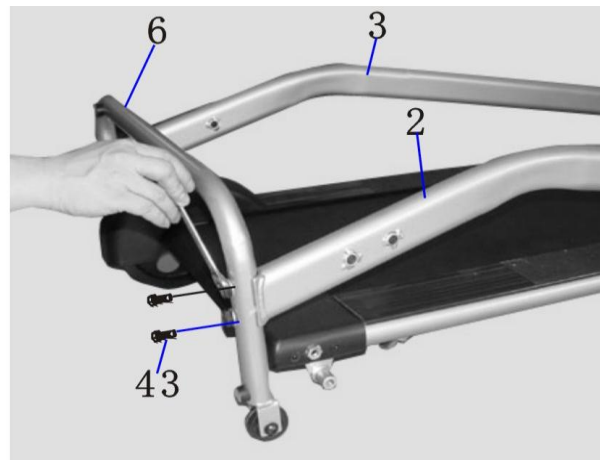

Figure 2
Attach the Base support (6) to the Left and Right handlebar supports (2,3) with four Bolts (43). (See figure2)